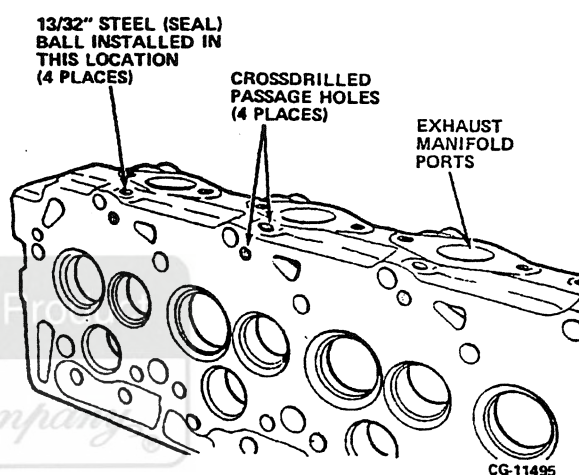

Figure 3.26A. Crossdrilled Passages in Cylinder Head (Bottom View)
**NOTE:** Each cylinder head contains four 13/32 in. steel (seal) balls located in passage holes on the exhaust manifold side of the cylinder head. The balls seal coolant flow through the cross drilled passages which provide positive coolant flow to the valve seat areas. (Refer to Figure 3.26A).